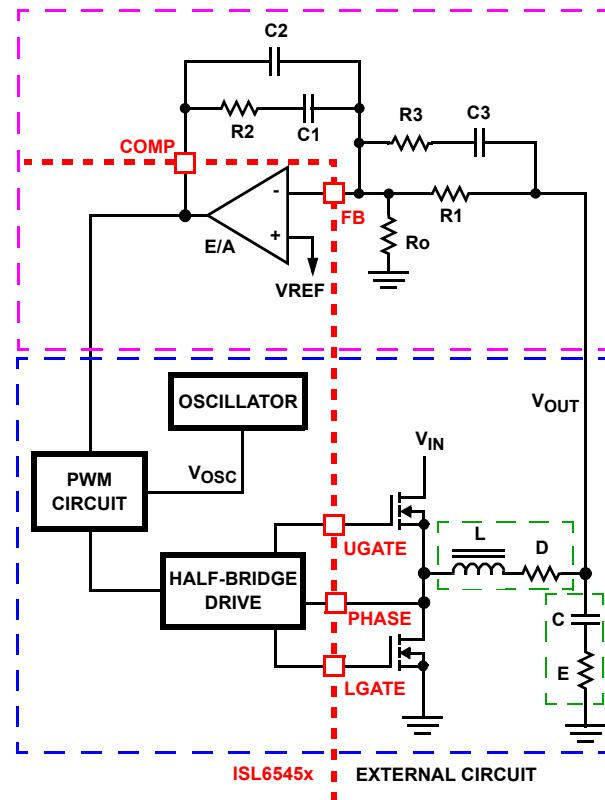

FIGURE 9. VOLTAGE-MODE BUCK CONVERTER COMPENSATION DESIGN
This section highlights the design consideration for a voltage-mode controller requiring external compensation. To address a broad range of applications, a type-3 feedback network is recommended, as shown in the top part of Figure 9.
Figure 9 also highlights the voltage-mode control loop for a synchronous-rectified buck converter, applicable to the ISL6545x circuit. The output voltage (V_{OUT}) is regulated to the reference voltage, V_{REF} . The error amplifier output (COMP pin voltage) is compared with the oscillator (OSC) modified sawtooth wave to provide a pulse-width modulated wave with an amplitude of V_{IN} at the PHASE node. The PWM wave is smoothed by the output filter (L and C). The output filter capacitor bank's equivalent series resistance is represented by the series resistor E .
The compensation network consists of the error amplifier (internal to the ISL6545x) and the external R1-R3, C1-C3 components. The goal of the compensation network is to provide a closed loop transfer function with high 0dB crossing frequency (F_0 ; typically 0.1 to 0.3 of F_{SW}) and adequate phase margin (better than 45°). Phase margin is the difference between the closed loop phase at F_{0dB} and 180°. The equations that follow relate the compensation network's poles, zeros and gain to the components (R1, R2, R3, C1, C2, and C3) in Figure 9. Use the following guidelines for locating the poles and zeros of the compensation network:
1. Select a value for R1 (1kΩ to 5kΩ, typically). Calculate value for R2 for desired converter bandwidth (F_0). If setting the output voltage via an offset resistor connected to the FB pin, R_o in Figure 9, the design procedure can be followed as presented.